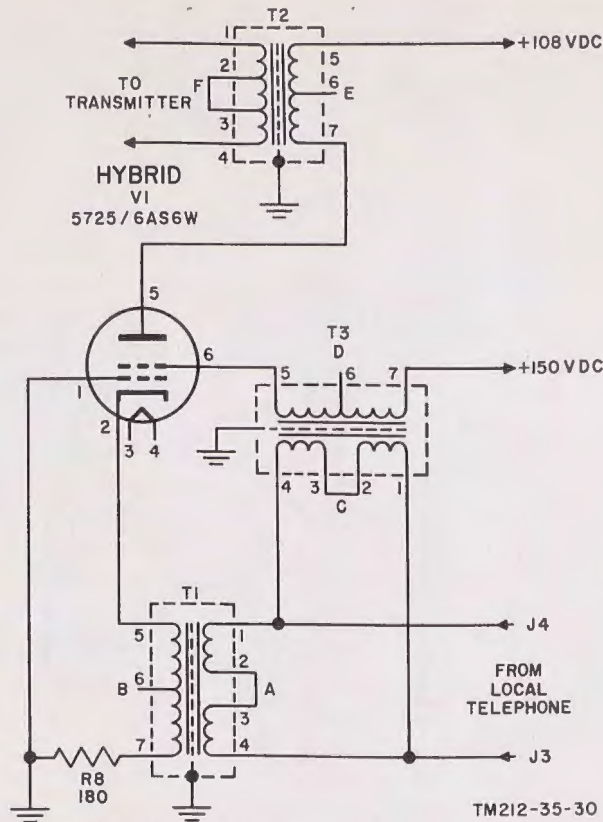

Figure 30. Simplified hybrid circuit transmitting signal.
e. Voice Frequencies From Local Telephone. The local telephone may be connected directly to J3 and J4 or through a switchboard and telephone line. The audio signal from the local telephone appears across winding A of transformer T1. During this phase of hybrid operation, there is no signal across R4, R5, and R6. The circuit operates as a grounded grid amplifier and may be redrawn (fig. 30). The audio signal from the local telephone, which appears across winding A of transformer T1, will induce a voltage (the audio signal) across winding B of transformer T1. Winding B of transformer T1 is in series with the cathode of hybrid V1. The audio voltage appearing across winding B will modulate the dc tube current of hybrid V1. The modulated current flows through winding E of transformer T2, which is in the plate circuit of hybrid V1. The modulated current induces an ac voltage (the audio signal) across winding F of transformer T2. Radio Transmitter T-593(*)/TRC-47, connected across winding F, will be modulated by the audio voltage. Figure 30 reveals that winding A of transformer T1 and winding C of transformer T3 are common. Therefore, the voice signal from the local telephone which appears across winding A of transformer T1 also appears across winding C of transformer T3. Transformer T1 is connected so that the voltage across winding B is in phase with the voltage across winding A. Transformer T3 is connected so that the